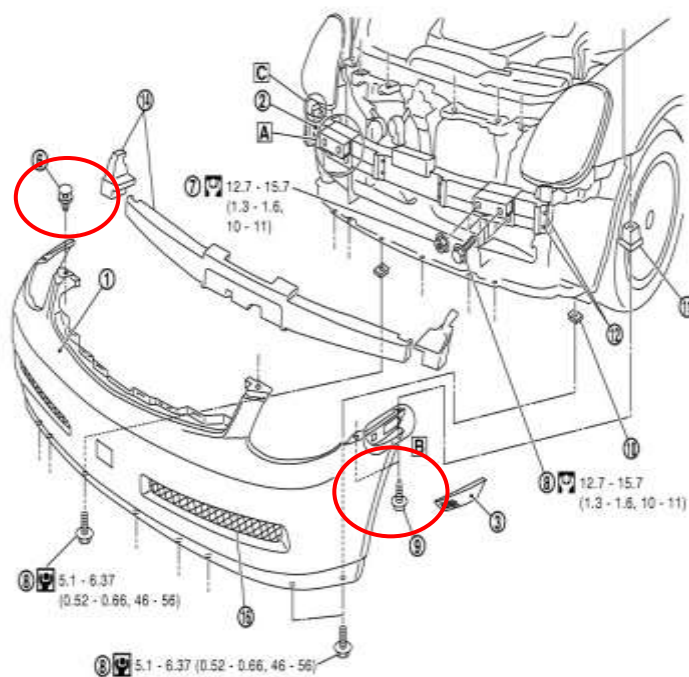

Figure 3
NOTE: Refer to *Figure 3* below for locations of Bumper mounting hardware and Core Support Clips for applicable models.
9. Remove plastic pop clips securing the upper Bumper Fascia to the vehicle at the Radiator Core Support. *Figure 3.*
11. Remove the Foam Impact Absorber in front of the Crash Bar. *Figure 3.*
12. Remove the (4) four bolts and (4) four hex nuts securing the Front Crash Bar to the chassis, retain the hardware as it will be reused. Remove Crash Bar. *Figure 3.*